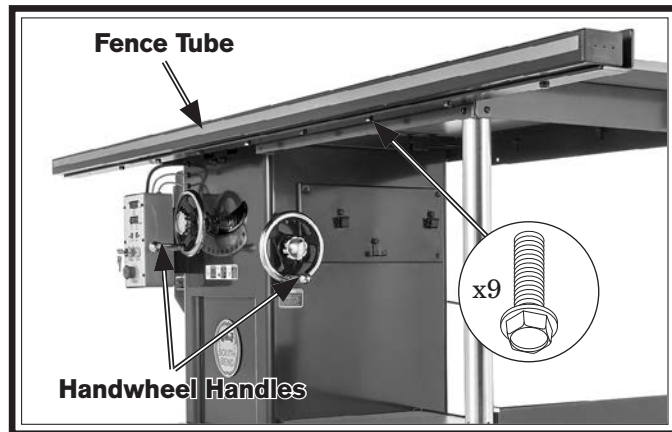

Figure 31. Fence tube mounted to front rail.
12. Place fence tube over front rail and secure with (9) M8-1.25 x 12 flange bolts, as shown in **Figure 31**, then install handwheel handles.